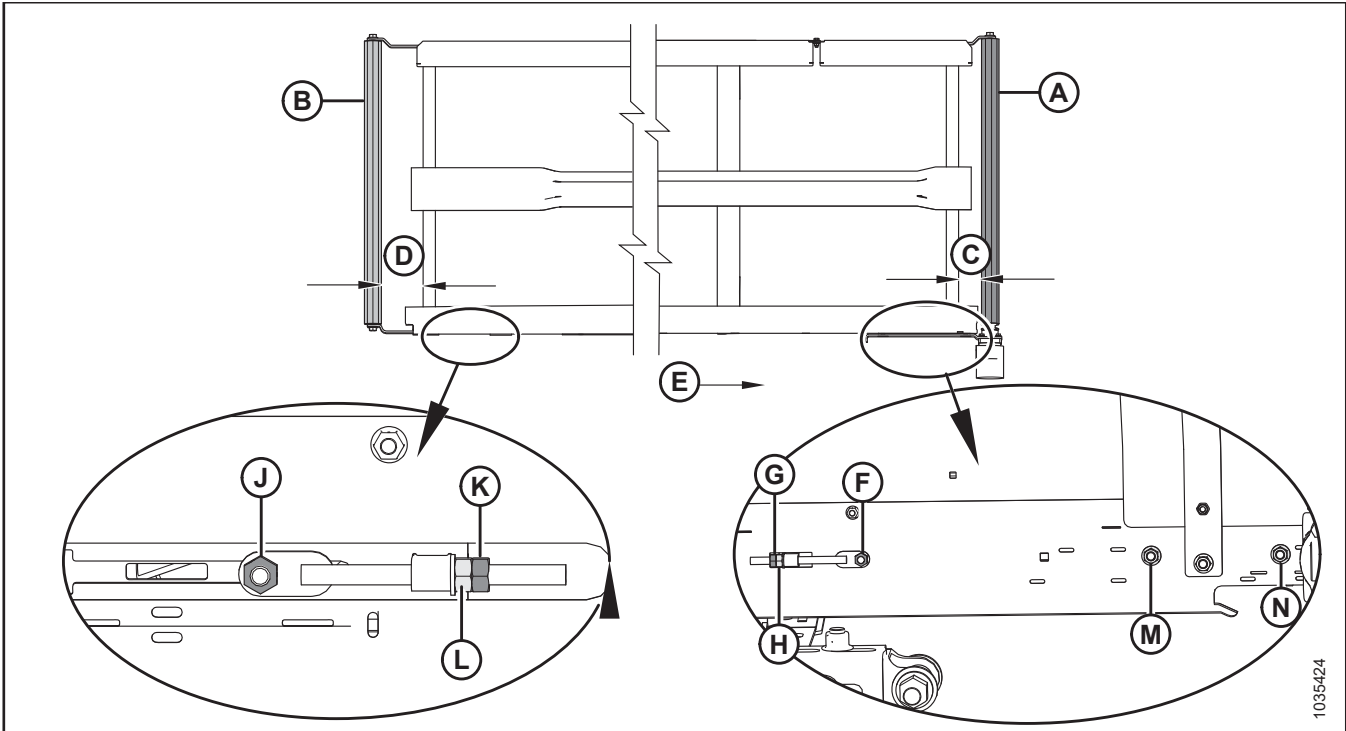

Figure 4.233: Draper Tracking Adjustments – Left Draper
2. Adjust drive roller (A) to change **C** (refer to Table 4.2, page 410 and Figure 4.233, page 410) as follows:
- a. Loosen nuts (F), (M), and (N), and jam nut (G).
- b. Turn adjuster nut (H).
- c. Tighten nuts (F), (M), and (N), and jam nut (G).
3. Adjust idler roller (B) to change **D** (refer to Table 4.2, page 410 and Figure 4.233, page 410) as follows:
- a. Loosen nut (J) and jam nut (K).
- b. Turn adjuster nut (L).